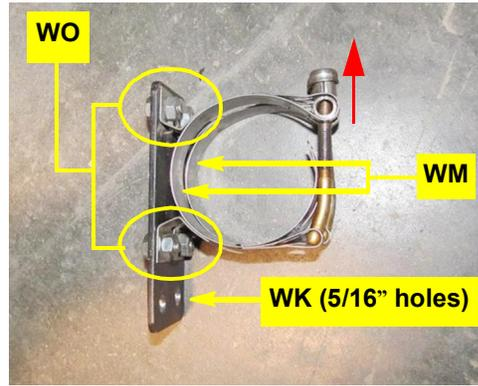

Figure 2a: WAS assembly mounting
a. Using hardware **WO** attach the two clamps **WM** on WAS assembly mounting bracket **WK**. Attach the clamps with their threads/nut pointing away from the two 5/16" holes (Figure 2a).
- a. Remove the lower bolt of the two in the left side lower steering column support bracket (Figure 2a inset). Using the bolt, mount bracket **SC**, with switch **SD** installed, on the column support bracket.
Figure 2a with inset: Mounting the switch, determining magnet positions